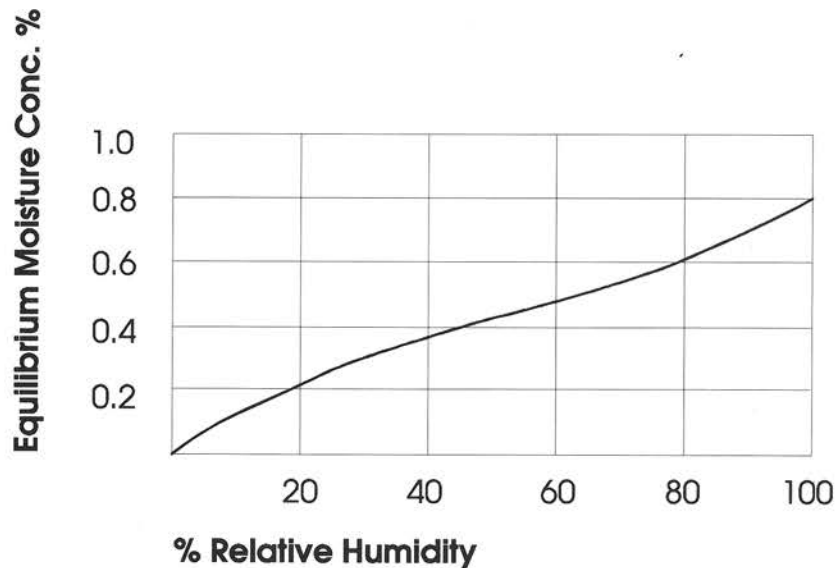

Fig. 6.1: Moisture Content v Relative Humidity for ABS.
A key to understanding moisture pick-up in plastic materials is relative humidity. Plastics absorb water from air, or lose it to the air in direct proportion to the surrounding relative humidity (RH). For example if dry ABS sheet is exposed to 50% RH it will absorb moisture until it comes to equilibrium with the surrounding air, a process which at room temperature can take several days. At equilibrium the moisture content is uniform throughout the sheet. If the relative humidity is then increased to 75% more water will be absorbed, or if the RH is lowered to 30%, water will be lost. The process is fully reversible. Figure 6.1 illustrates the moisture content versus % RH relationship for ABS.